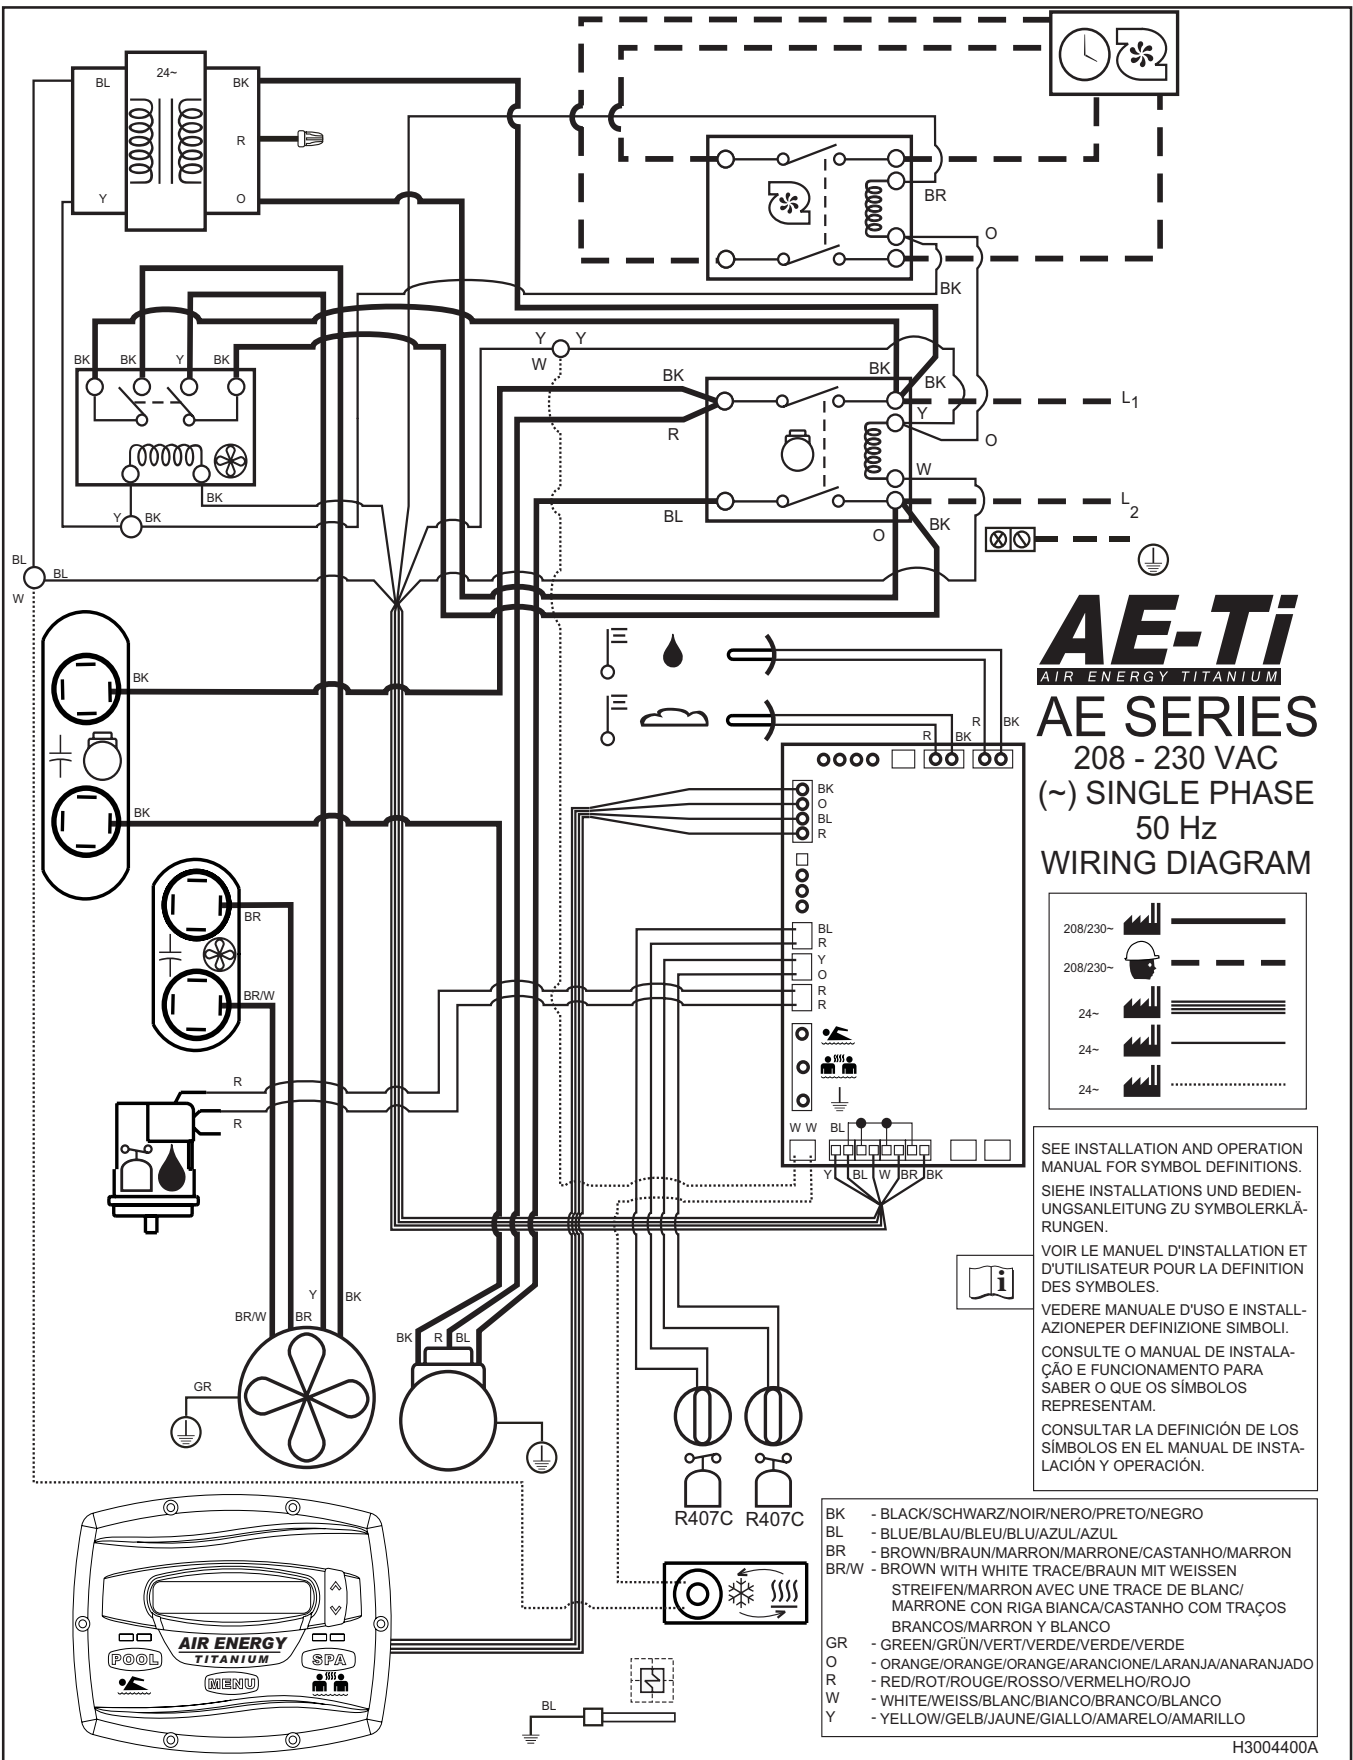

Figure 11. AE-Ti Single-Phase Electrical Supply Wiring Diagram
Wiring connections must be made exactly as shown in the wiring diagram found on the inside of the heat pump access compartment. See Figure 11 for single phase electrical wiring and Figure 12 for 3-phase electrical wiring (See Figure 13 for electrical wiring diagram symbol definitions).
6. Connect the wires to the terminals on the main contactor as shown in the wiring diagram. Refer to Figures 11 and 12.